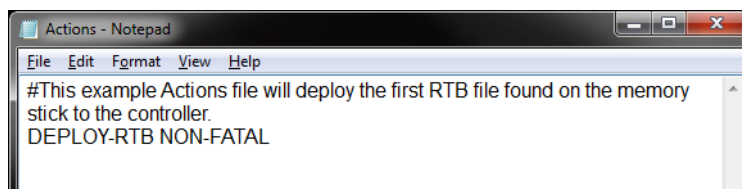

Fig 65. Example Actions.txt File to Update the Controller Software
- **Actions.txt** - Edit the Actions.txt file so that the only action is DEPLOY-RTB (see Fig 65.)